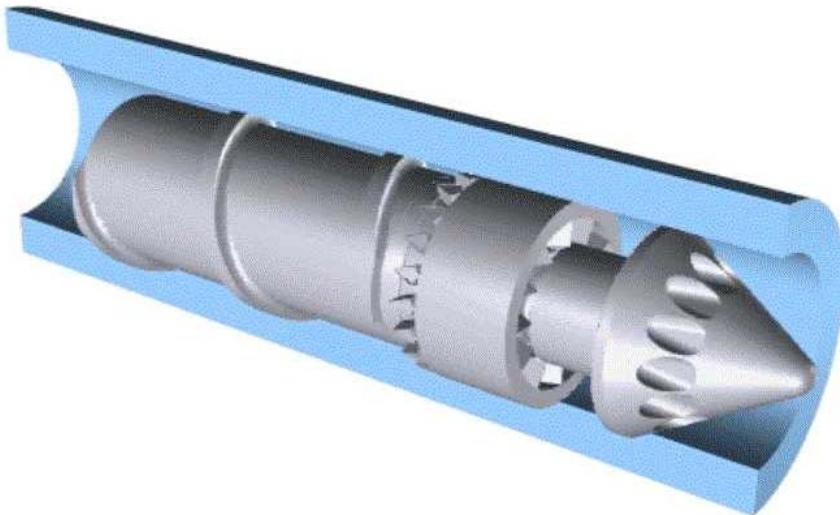

Figure 3, Example of a CRD non-return valve for injection molding
The mixing capability of IMM can be further increased by incorporating mixing capability in the non-return valve (NRV) at the end of the screw. REE has developed several non-return valves that incorporate CRD mixing elements (11). Figure 3 shows an example of a CRD-NRV.